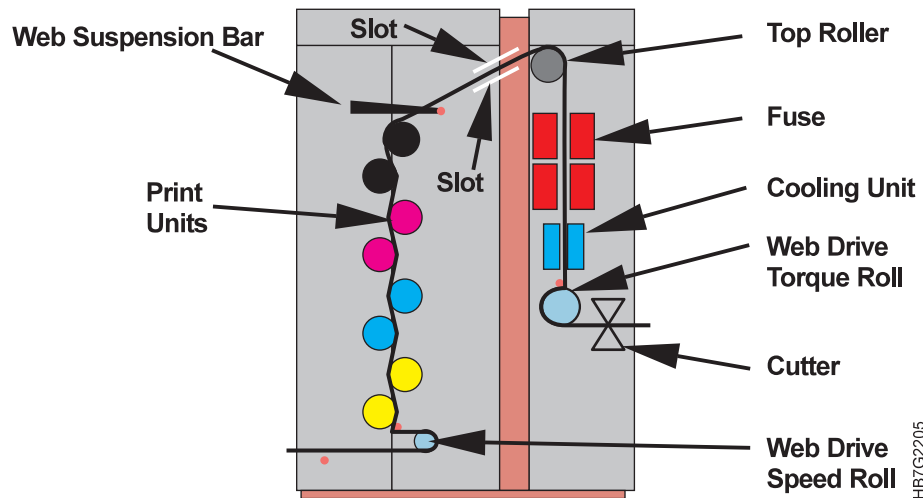

Figure 310. Print Tower and Fixed Tower Paper Path
- 5 Push the paper through the slot in the frame located above the Y black print station, as shown in Figure 310.
- 6 Pull the paper around the top roller and insert the paper into the slot on top of the fuser, as shown in Figure 310 and Figure 311 on page 365.